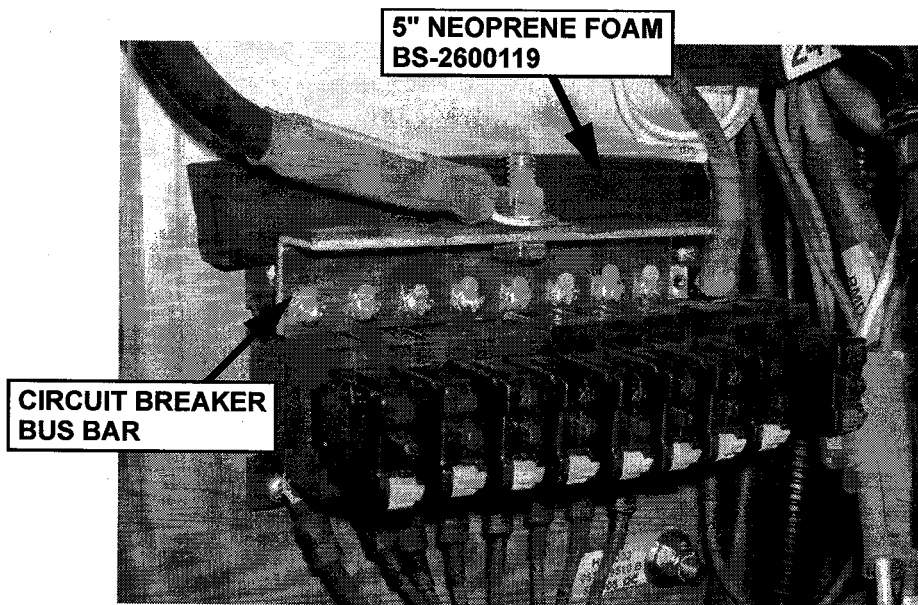

Figure 1-8 Neoprene Installation
15. Clean neoprene foam mounting surface. Allow area to dry completely. See **Figure 1-8**
17. Install neoprene foam behind the circuit breaker bus bar. See **Figure 1-8**